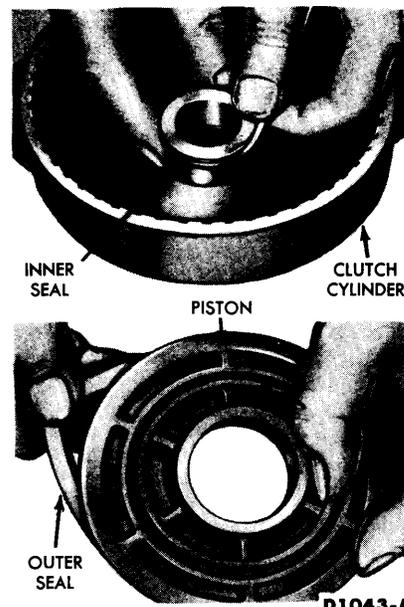

FIG. 15—Front Clutch Piston Seals
7. Remove the piston inner seal from the clutch housing. Remove the piston outer seal from the groove in the piston (Fig. 15).
18. Lubricate all parts with automatic transmission fluid. Install a new piston inner seal ring in the clutch cylinder as shown in Fig. 15.
19. Install a new piston outer seal in the groove in the piston as shown in Fig. 15.